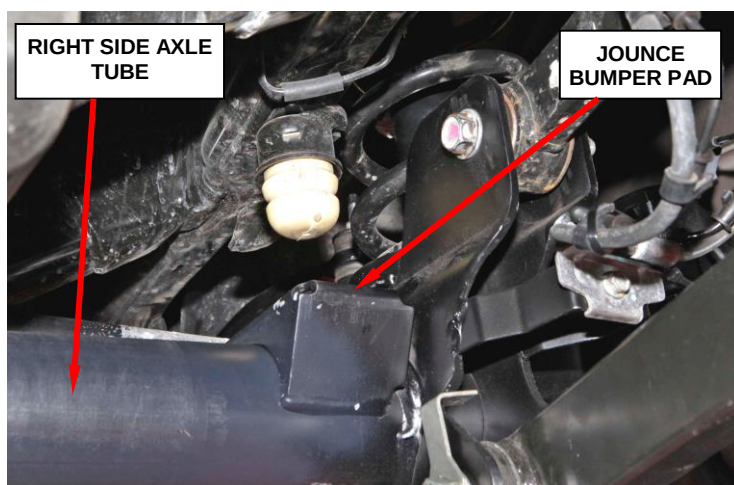

Figure 2 – Clean Jounce Bumpers (right side shown)
3. Thoroughly clean the left and right side front axle jounce bumper pads (Figure 2).